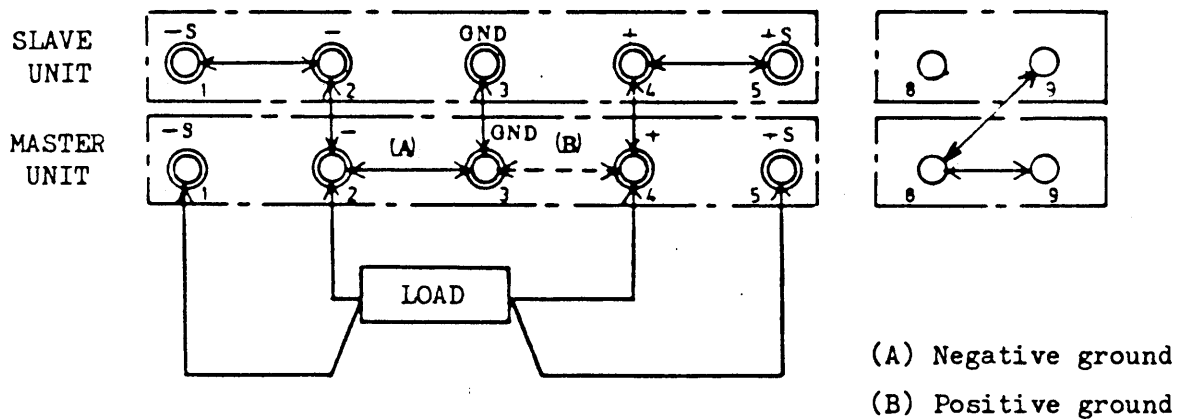

Figure 3-9. One-control operation, with sampling terminals
2. To improve the load change characteristics, make use of the sampling terminals. Refer to Figure 3-9 for the connection diagram.